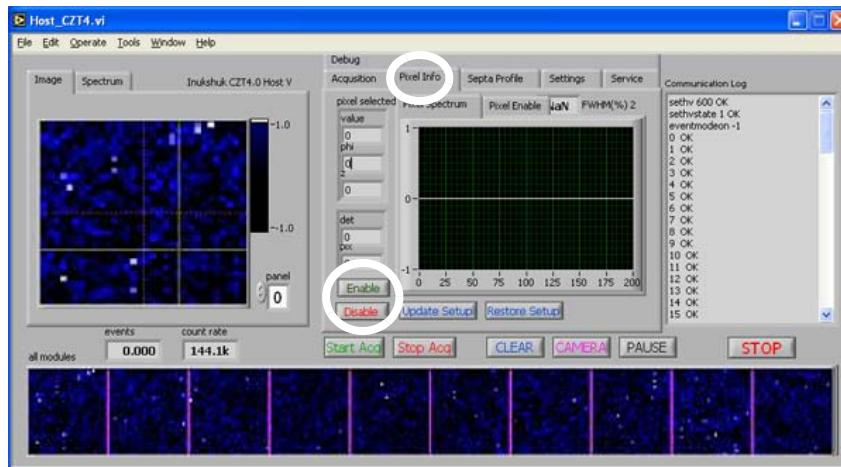

Figure 7-4
- E.) Click on the Pixel Info tab. Click on bright pixels (those having a value greater than 100) and click the Disable button. If a pixel is disabled by mistake, press the Enable button (circled buttons in Figure 7-4). You will have to do this for each panel.
- I.) Save the bad pixel information by pushing the Update Setup button (Figure 7-4)
3. Click the Stop Acq button and click on the Pixel Info tab (Figure 7-4).